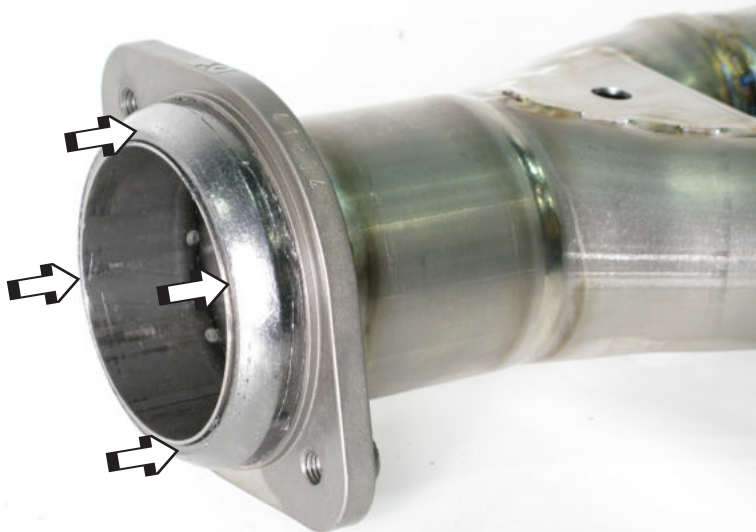

Figure 24
8. **For Evolution:** carefully slide the graphite conical gasket from Akrapovič installation kit onto the Collector's outlet (**Figure 24**).